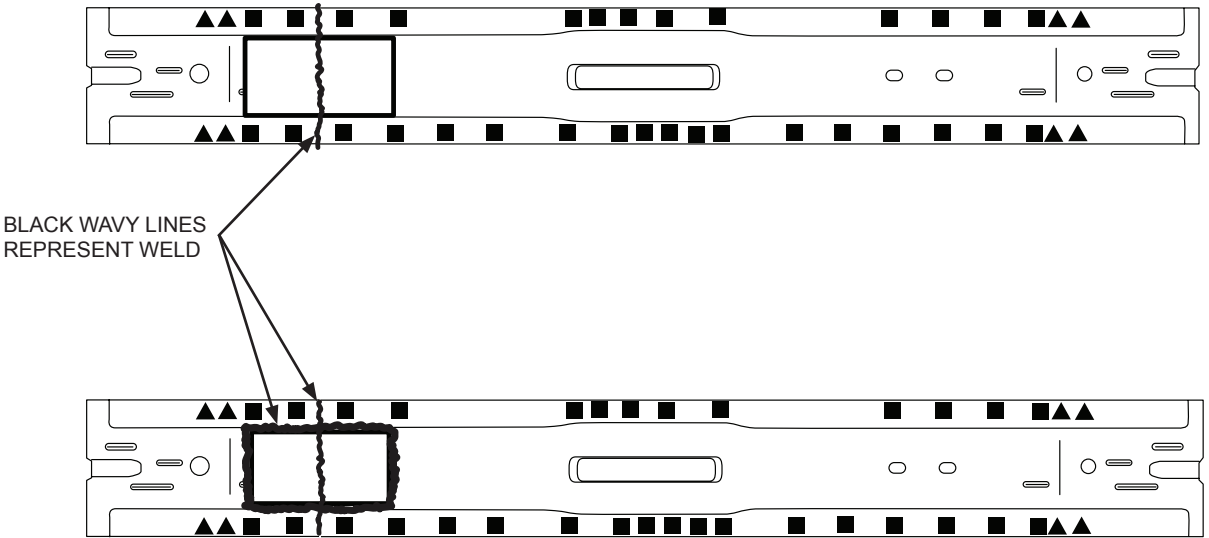

FIGURE 4
- **Option 2** - Insert/backer may be welded into section after MIG butt welding of cross member sections. Dress butt weld and fully weld insert/backer into position. (Refer to Figure 4).